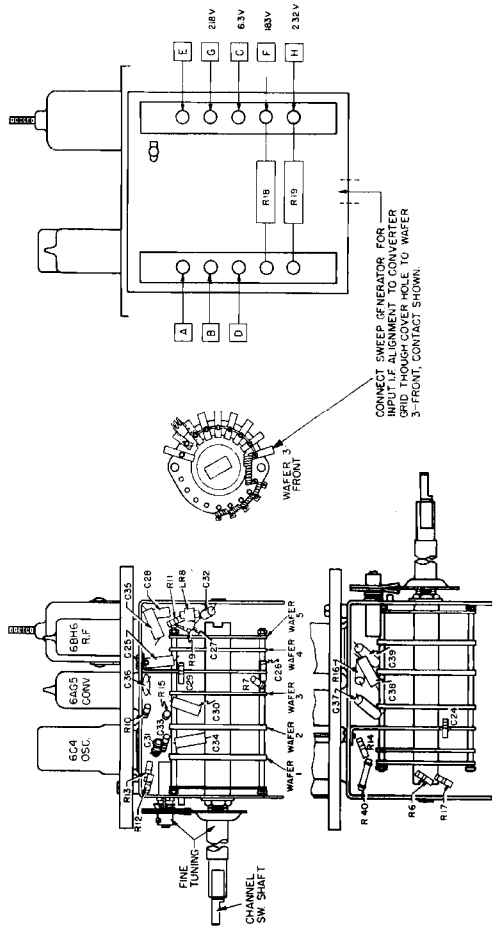

FIG. 4 - TUNER UNIT LAYOUT
3. Connect sweep generator tuned to 24 MC. with a 10 MC. sweep to 6AG5 converter grid, point on RF tuner shown in Figure 4. Loosely couple the signal generator tuned to 27.9 MC. to this point for use as a marker.